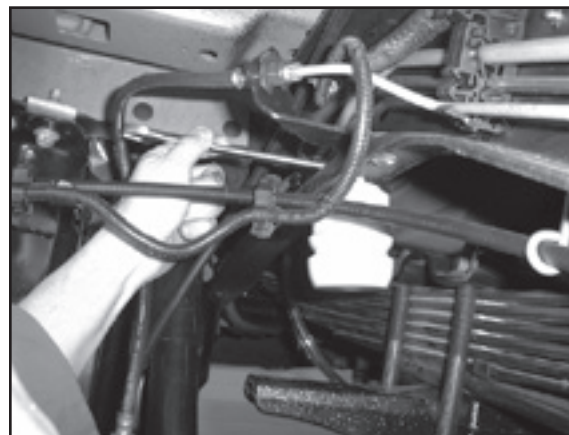

fig. 4
1. Remove the jounce bumper. The bellows will mount in place of the jounce bumper (Fig. 4).